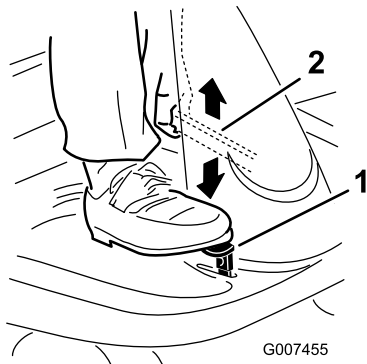

Figure 5
1. Push down on the brake pedal (Figure 5) and hold it.
2. Push the parking brake lever (Figure 5) down and gradually release the brake pedal.
1. Push the brake pedal down and hold it (Figure 5).
2. Lift the parking brake lever (Figure 5) up and gradually take your foot off the brake pedal.